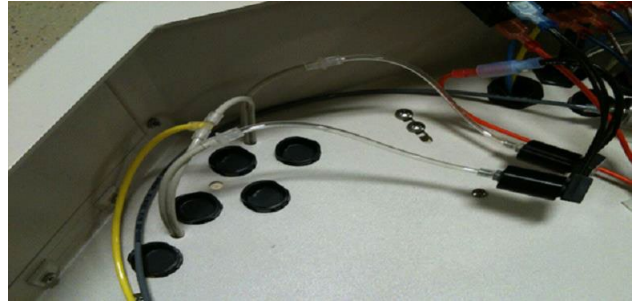

Fig. 1
Attach tubing to holders. The tracer tubing goes to the back barb on the holder, and the non-tracer to the front. Press on sleeves. (Fig. 1)
- 6 Tee the yellow tubing from air/electric switch assembly to main air using two large sleeves. (Fig. 1)